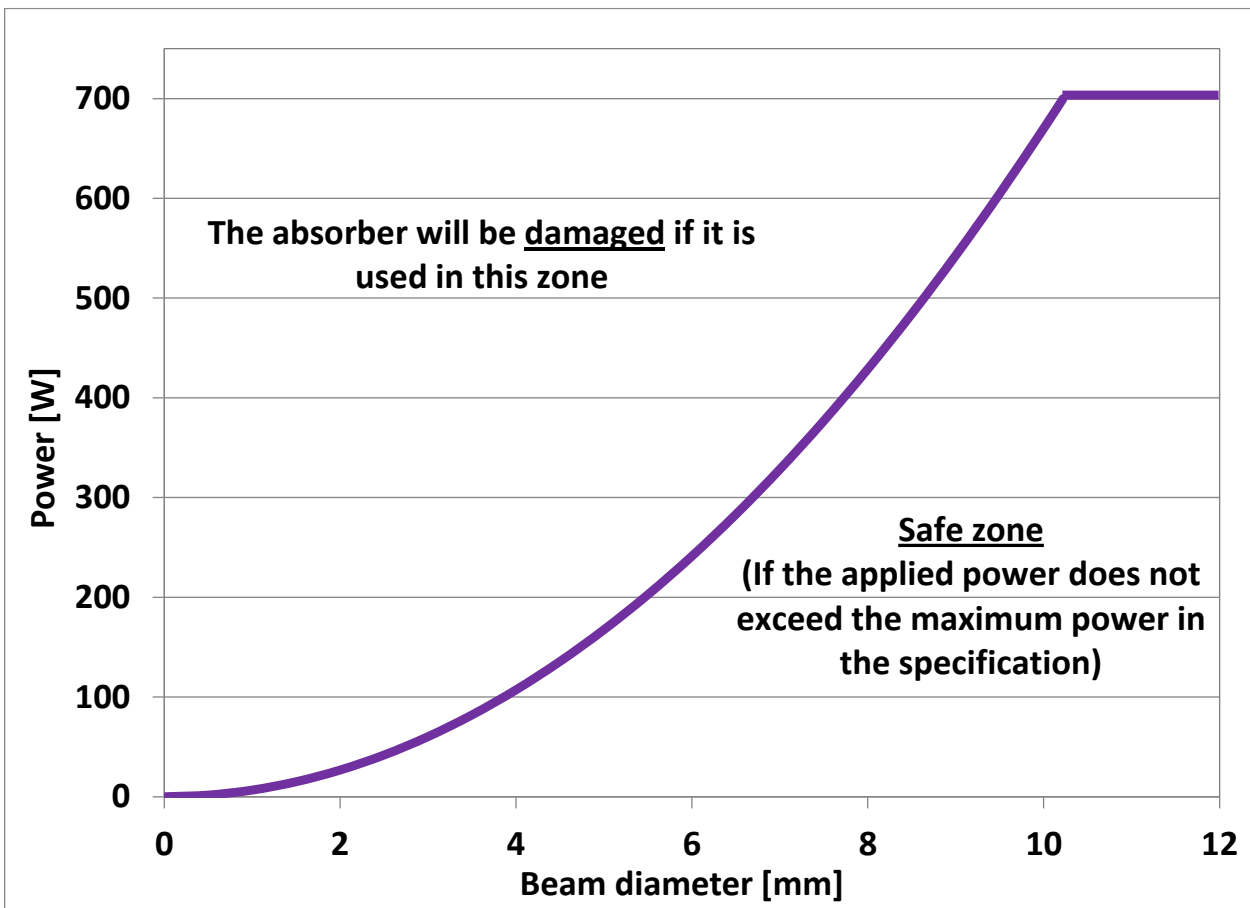

FIG. 1-10 MINIMUM BEAM SIZES FOR UP WITH H-TYPE ABSORBER AT 1.064 μM.
1. Required specifications for customer-supplied back module are given in Fig 1-10 through 1-12. Note that tapped holes must be electrically conductive, and that there has to be at least bare spots to allows electrical contact with detector (see point 5.).